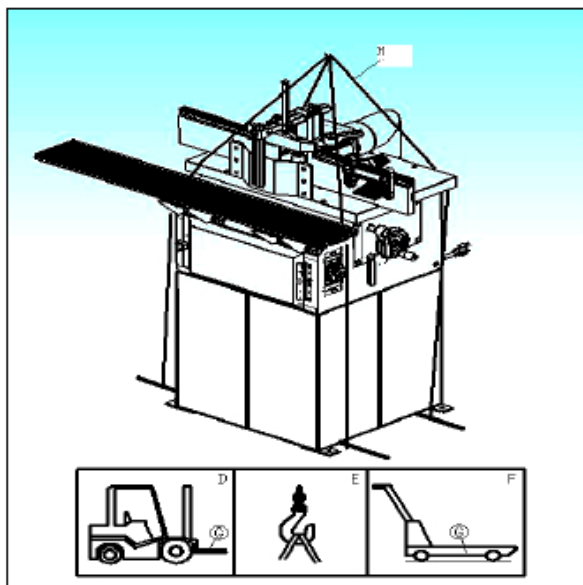

Fig. 3: Transport options for the machine
Step 1: Prepare a high-lift truck (Pos. D, Fig. 3) or a manual lifting carriage (Pos. F, Fig. 3) with sufficient lifting capacity,
Should you use a crane (Pos. E, Fig. 3) or a similar hoisting equipment, proceed as follows:
Step 1: Prepare four lifting belts (Pos. H, Fig. 3) or steel ropes at least 2 m long with sufficient lifting capacity, fix the ropes to the hook of the crane with the required capacity.